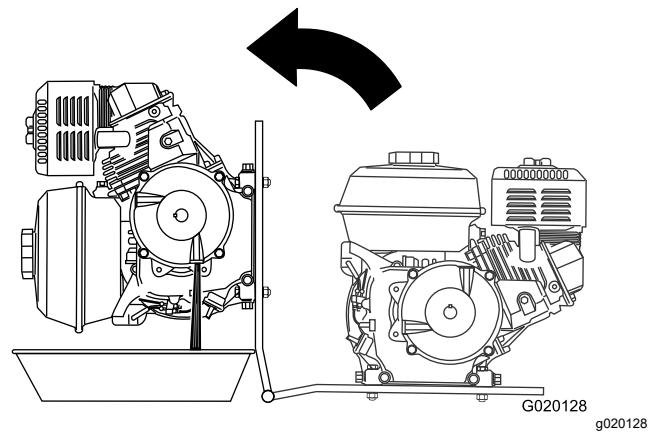

Figure 63
8. Align a drain pan to the hinge of the engine deck (Figure 63).
9. Rotate the engine on the hinge side of the engine deck, and drain the oil from the reduction case (Figure 63).